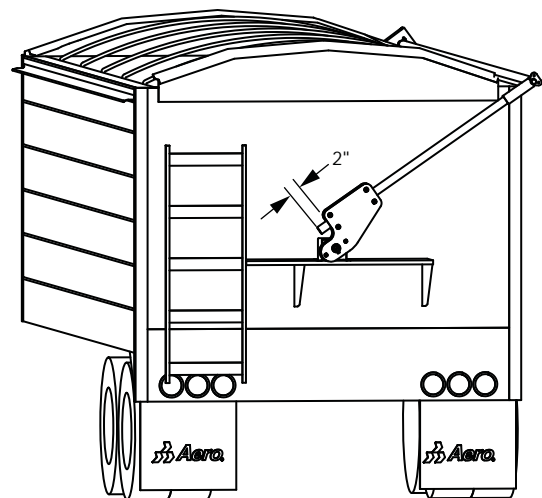

Figure 48
2) See Figure 48. When the rear swing arm is extended the farthest, the bottom of the swing arm should be at least 2" away from the bottom of the pivot boot. Cut tube and re-drill hole for screws in collar.